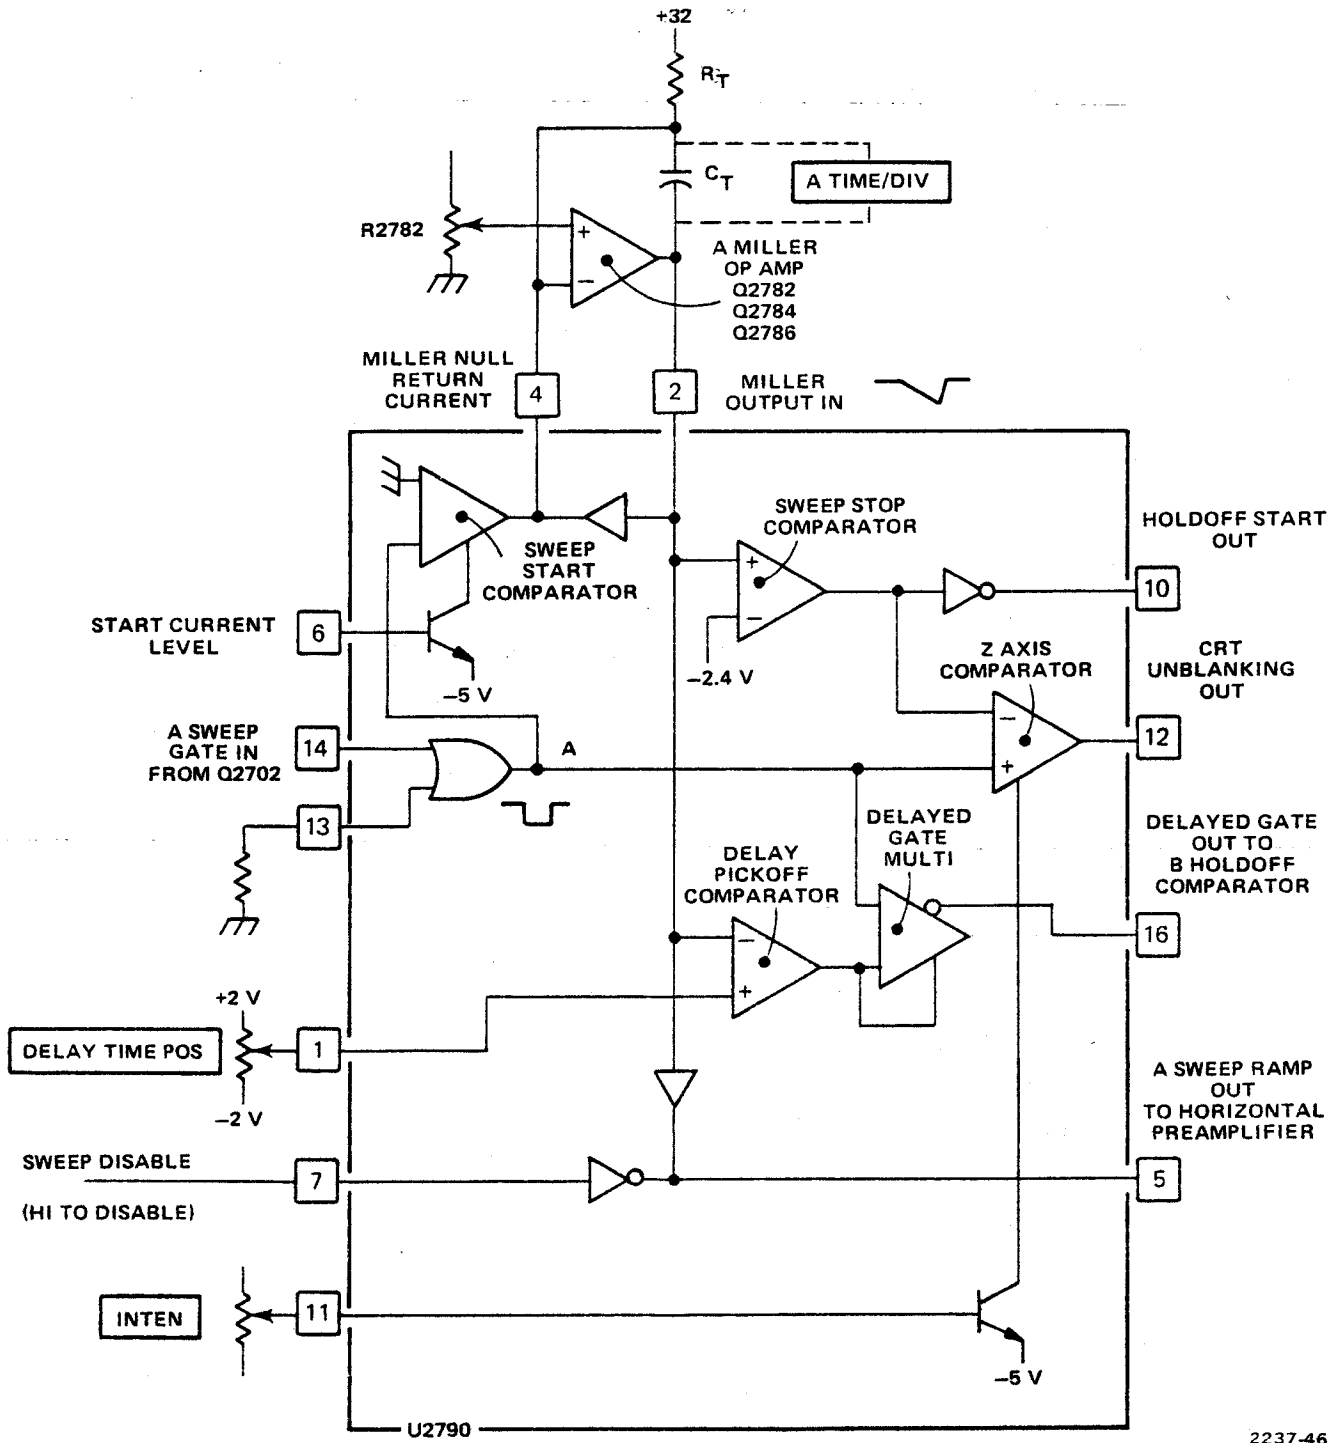

Figure 4-6. Simplified diagram of the A sweep generator.
(4) **A Sweep Generator.** A sweep generator consists of U2790 and associated circuitry. Diagram 5 (FO-7) shows a complete schematic diagram of the circuit. Figure 4-6 shows a simplified diagram of the circuit. Figure 4-7 shows the waveforms produced during A sweep generation.
U2790 is HI. This sets point A (see Figure 4-6) HI. This causes the output of the sweep start comparator to appear as a low-impedance point. The output of the sweep start comparator supplies current through pin 4 of U2790, and through  $R_T$ , to set the inverting input of the Miller op amp to the same voltage as the non-inverting input (the sweep
**2 At Triggering.** Pin 13 is always LO, except in the X-Y mode. When pin 13 is HI, point A (see Figure 4-6) is HI regardless of the state of pin 14. When the sweep gate causes pin 14 to go LO, point A steps LO (see Figure 4-6). This causes the output of the sweep start comparator to become a high-impedance point. The timing capacitor ( $C_t$ ) starts charging through the timing resistor ( $R_t$ ).